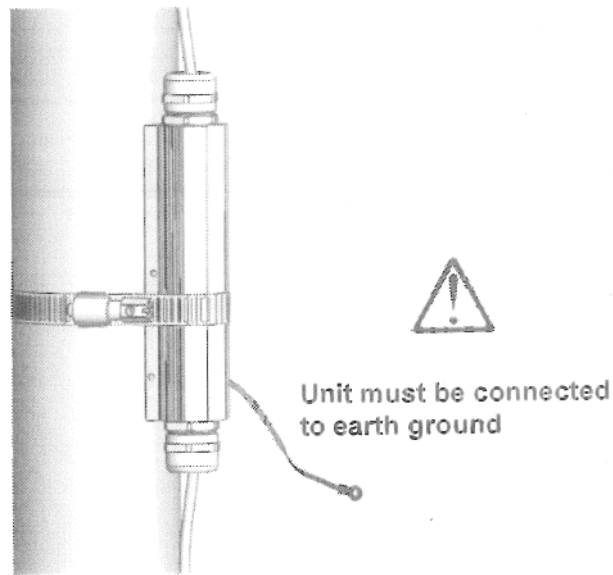

Figure 2-17 • Mounting Surge Protector on Pole
16. If mounting to a mast, first remove the bracket by unscrewing both of its screws. Attach the surge protector to the mast using a worm gear clamp. See Figure 2-17.